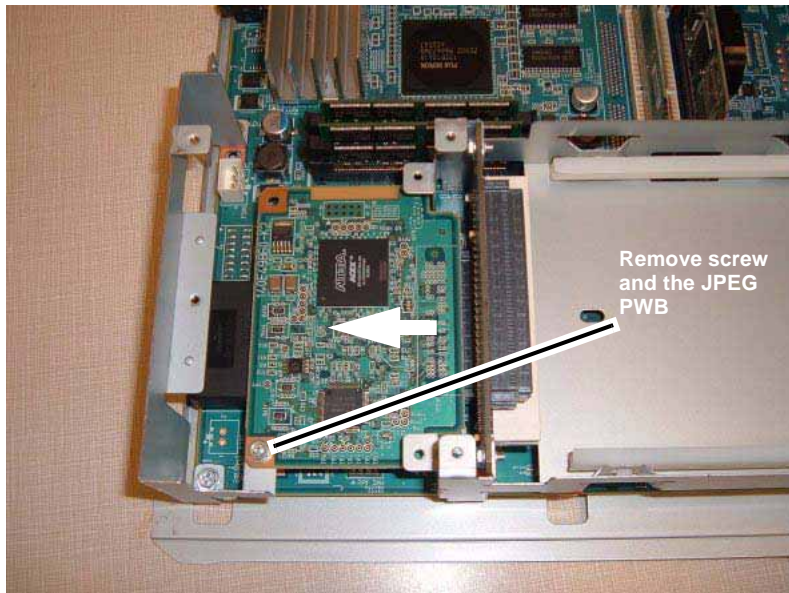

Figure 3 Removing the JPEG PWB
4. Remove the JPEG PWB (Figure 3).